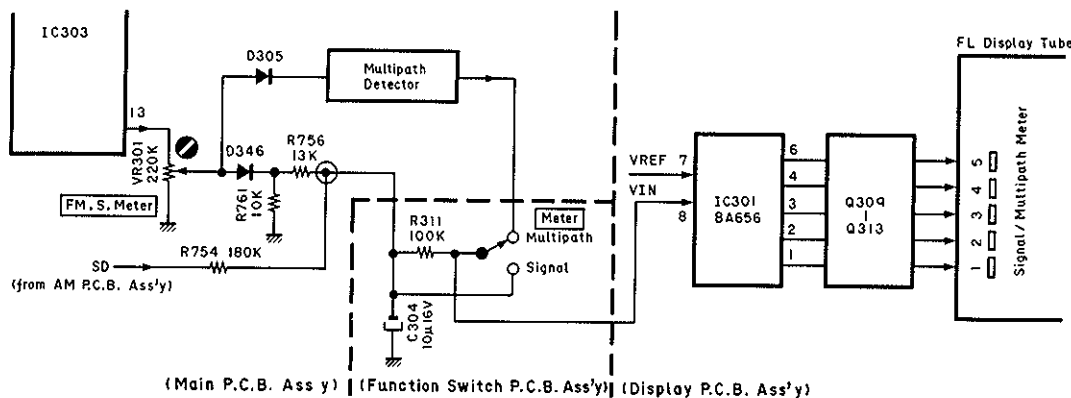

Fig. 12
(4) **Signal/Multipath meter** (refer to Fig. 12)